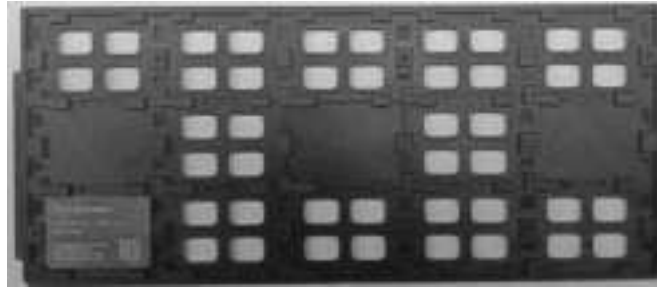

Figure 4-4. Single-layer Tray Packaging
Refer to Figure 4-4 below for single-layer tray packaging. The SOM modules shall be chamfered per the tray chamfer and loaded according to the sequence of IMEI number. One Plastic tray(③) can be loaded with 15 sets of SOM.